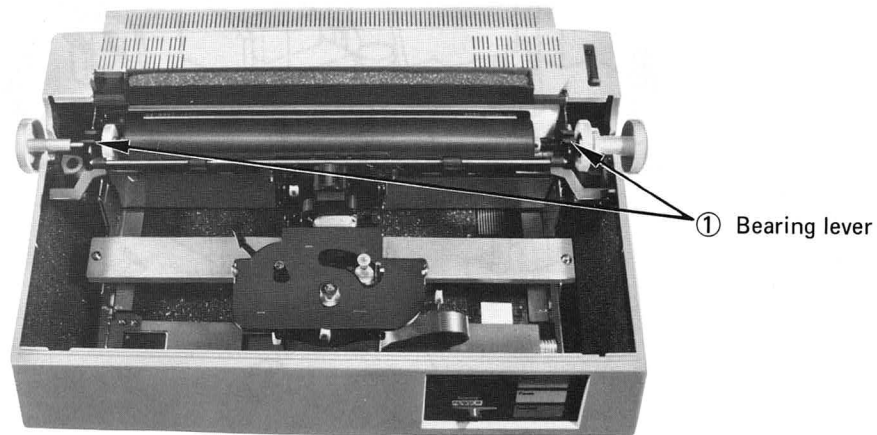

Fig. 5.4
- Step 5. Lift the platen while pulling bearing levers ① on either side of the platen toward you to remove the platen. (Fig. 5.4)